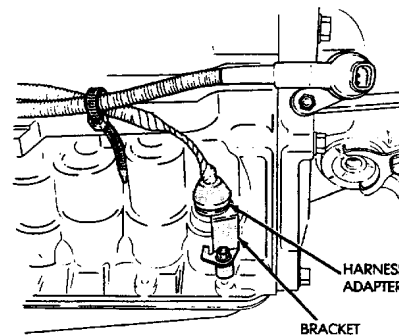

Fig. 10 Removing Bracket And Harness
(15) Remove harness bracket bolt and remove harness and bracket Fig. 10).